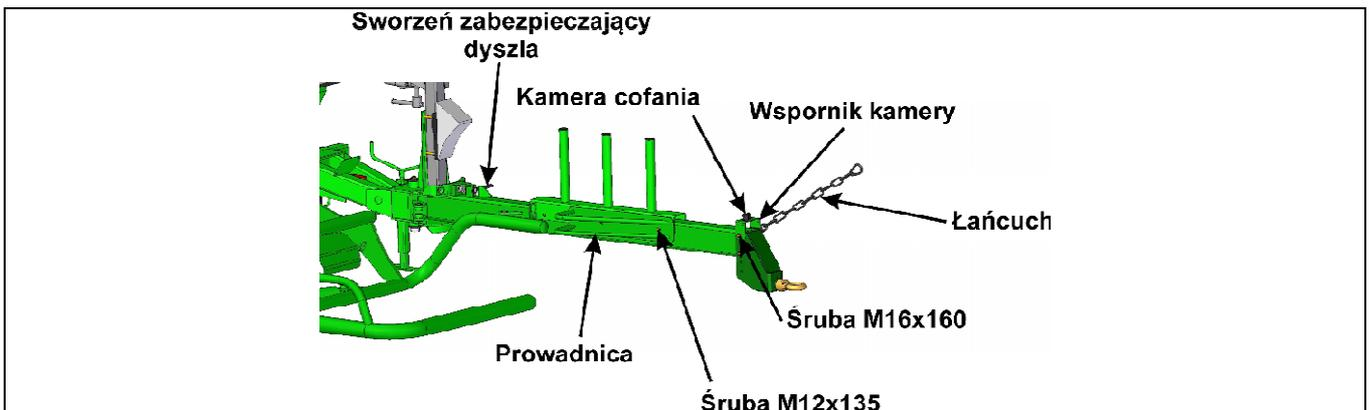

FIG. 79. ATTACHING COUPLING ELEMENTS TO THE WRAPPING MACHINE
- The wrapping machine drawbar should be set from transport position to the working position, blocking it with a safety bolt in the middle opening. The hitch of the wrapping machine must be set to the upper openings at the same time mounting the chain and camera support with a M16x160 screw and together with that, the rear view camera as shown in Fig. 79.
- Screw the bale guide to the wrapping machine drawbar using M12x135 screws as shown in Fig. 79.